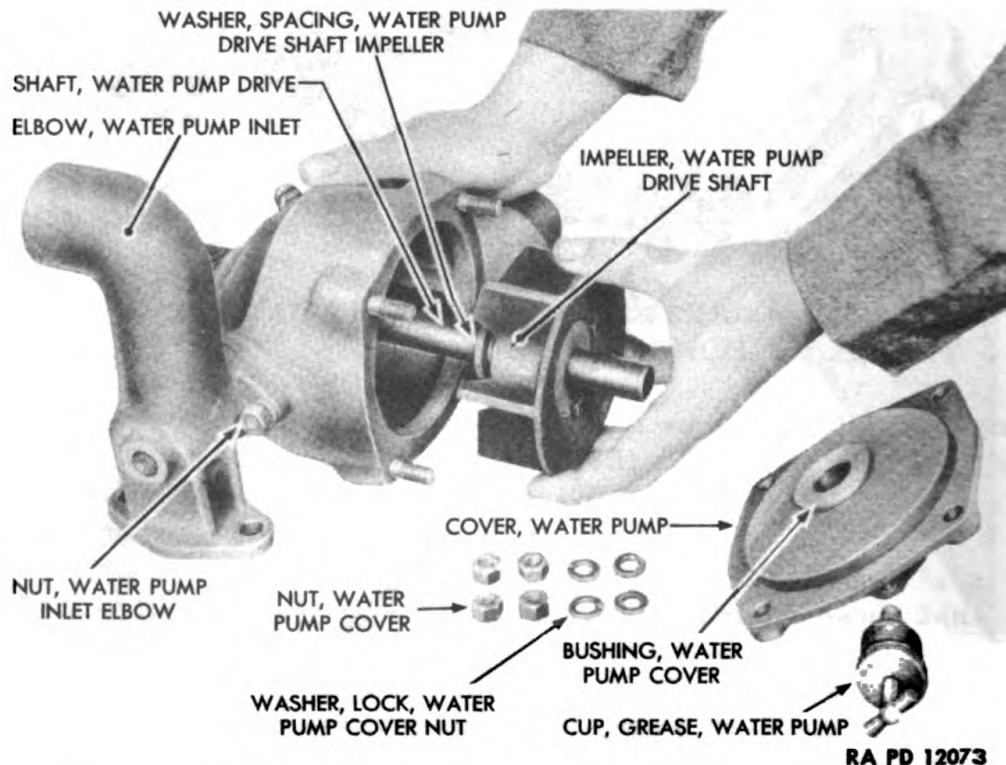

Figure 121—Removing Water Sump Drive Shaft Impeller
Remove water pump grease cup from water pump cover (fig. 121). Remove the 4 water pump cover stud nuts and lock washers (fig. 121). Lift off water pump cover assembly and water pump cover gasket (fig. 121).
Slide water pump drive shaft with water pump drive shaft impeller, and water pump drive shaft impeller spacing washer out of water pump body (fig. 121).
Place water pump drive shaft in a soft-jawed vise. Drive out water pump drive shaft impeller pin. Pull water pump drive shaft impeller from drive shaft (fig. 121). Remove water pump drive shaft impeller key from the water pump drive shaft.
Remove water pump inlet elbow cap screw and lock washer (fig. 121).
Remove water pump inlet elbow stud nut and lock washer (fig. 121).
3. Drive water pump cover bushing out of water pump cover (fig. 121). Drive from outside of cover.